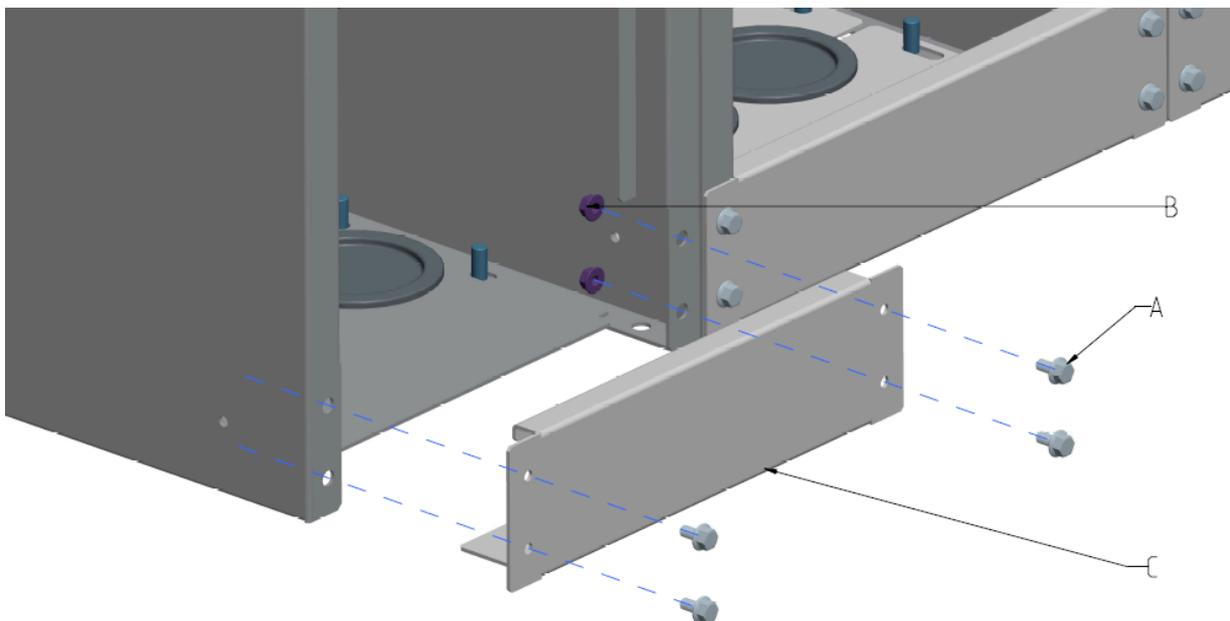

Figure 19: Disassembling the front panel of the cable compartment
The DR-6 medium-voltage switchgear is designed to connect the cables in the most comfortable way. Therefore, the front panel of the cable compartment (C) can be disassembled easily (Figure 19). The front panel of the cable compartment (C) is fixed with four self-securing hexagonal flange bolts (A) and four self-securing flange nuts (B).